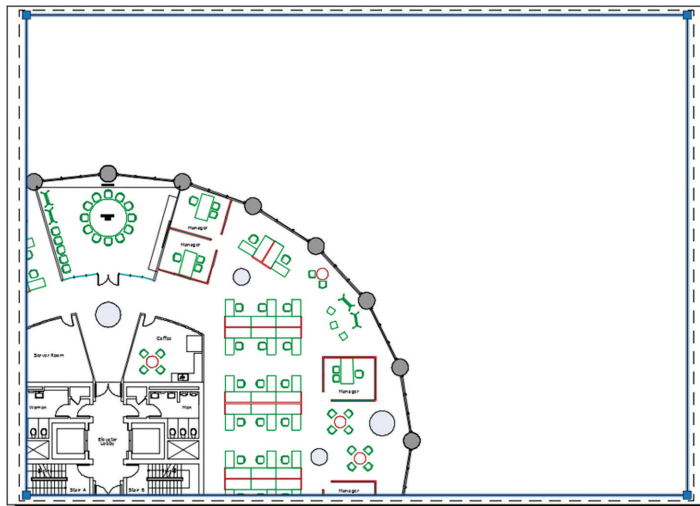

FIGURE 13.18 Scaling the viewport with grips
5. Viewport frames exist in paper space only. Click the viewport frame to select it. Select the upper-right grip and move it upward until it is close to the upper-right corner of the paper but inside the plot device limits. Click the lower-left grip and move it to the lower-left corner inside the device limits (see Figure 13.18). Press Esc to deselect.